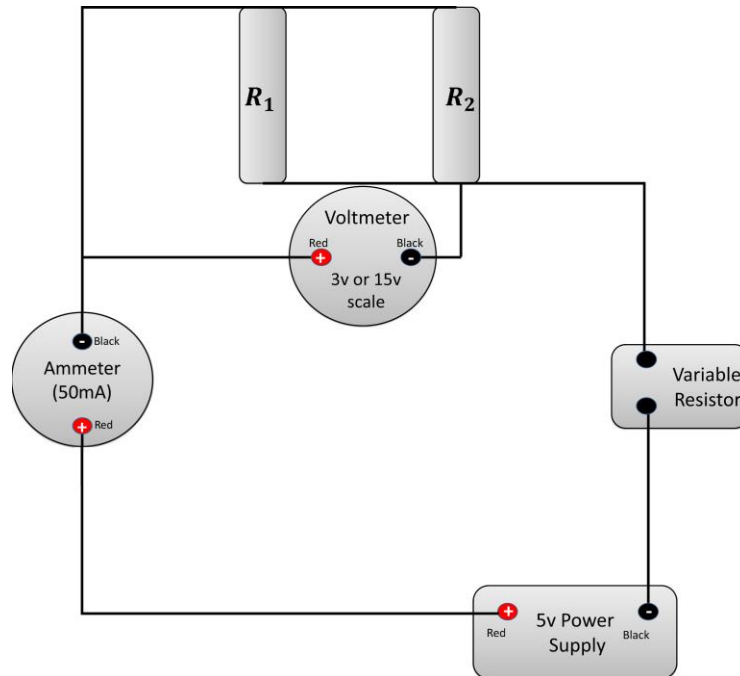

Figure 4.5: DC circuit with two resistors connected in parallel
1. Connect the resistors R_1 and R_2 as shown in Figure 4.5 in parallel.